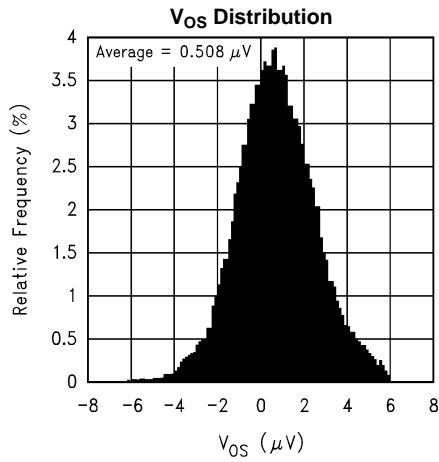

Figure 4.
- (1) Typical values represent the most likely parametric norm.
- (2) All limits are specified by testing or statistical analysis, unless otherwise noted.
- (3) The limits are set by the accuracy of high speed automatic test equipment. For the typical VOS distribution, see the curve (Figure 4).
- (4) Precision bench measurement of more than 300 units. More than 65% of units had less than 15nV /°C VOS drift.
- (5) Ensured Vos Drift is based on 280 devices operated for 1000 hrs at 150°C (equivalent to 30 years @ 55°C).
- (6) Specified by design only.